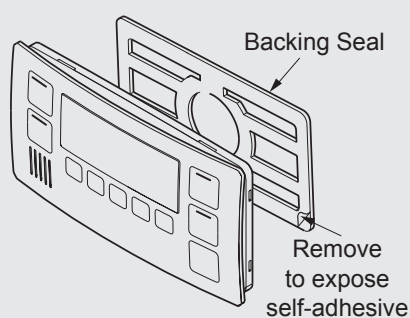

Fig.3
4. Carefully remove the face plate from the controller using a screwdriver (Fig.3).
4. Affix the double sided self-adhesive seal to the back of the controller (Fig.3).